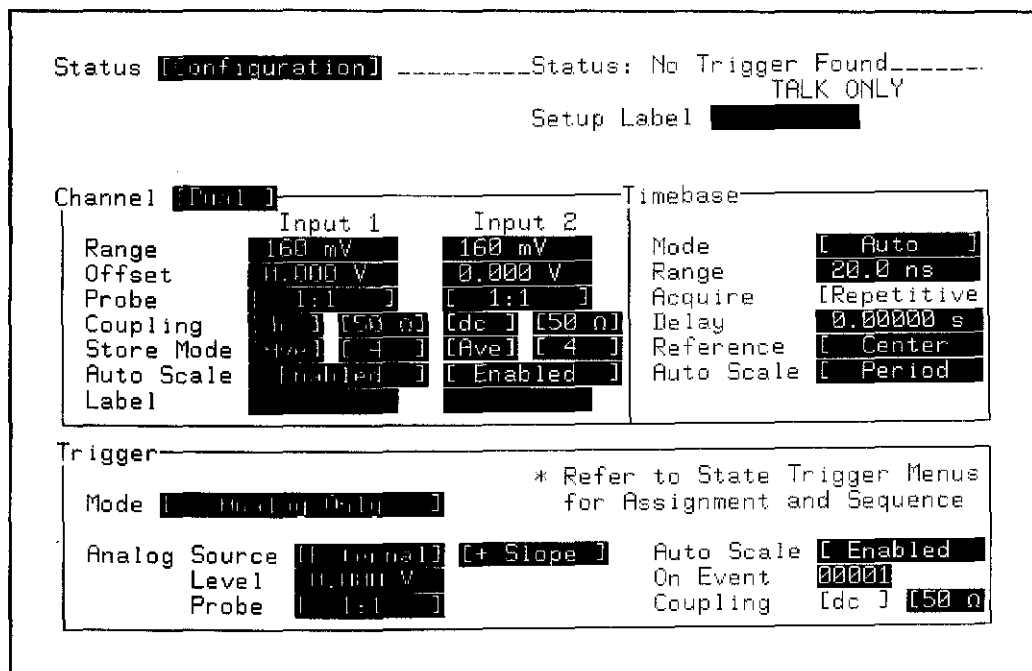

Figure 3-14. STATUS Configuration Menu
10. Configure STATUS Configuration menu as shown in figure 3-14.